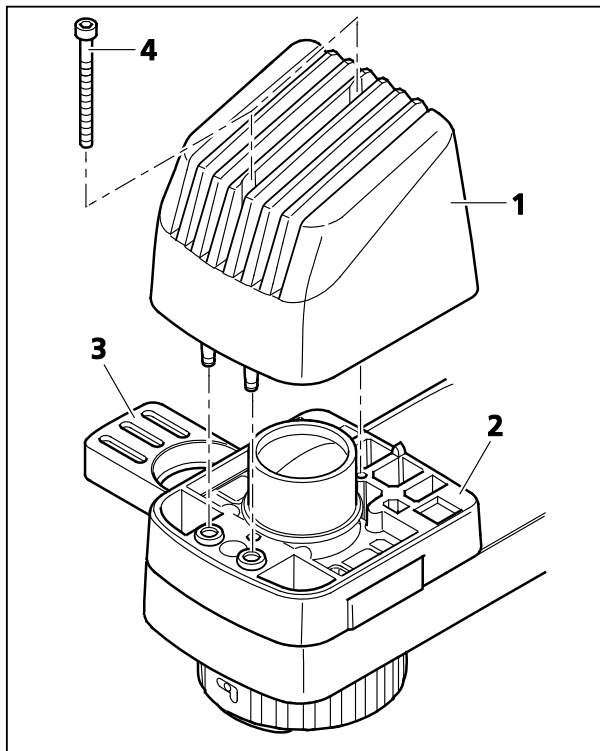

Fig. 3-15 Attaching the LED Illuminator
- Insert the illuminator (Fig. 3-15/1) with its contact pins into the slot (Fig. 3-15/2) on the carrier, as far as it will go.
- Fasten the illuminator to the carrier with two screws (Fig. 3-15/4).
If you employ the LED illuminator for transmitted light illumination, you should place the conversion filter in the slider (Fig. 3-15/3) of the carrier for reflected light. This will create the usual daylight impression during the microscoping process. Without that filter, the image may appear slightly bluish on occasion.